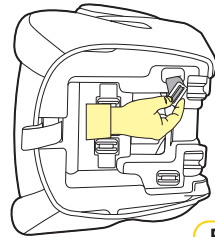

Figure 2
Step 2: Place the Harness Buckle under warm (max. 40 degrees Celsius) running water as shown below. Let the water run through the mouth of the buckle for five minutes (refer Figure 2).
- Step 3:** Pass the three bar slide located below the thigh harness slots on the end of each body/shoulder straps through the thigh harness slots. Each side of harness is now removed. (see Figure 2).
- Step 3:** Pull the shoulder harness straps through the shoulder slot holes in the seat body and cover. They are now loose in the front of the seat (refer Figure 2).